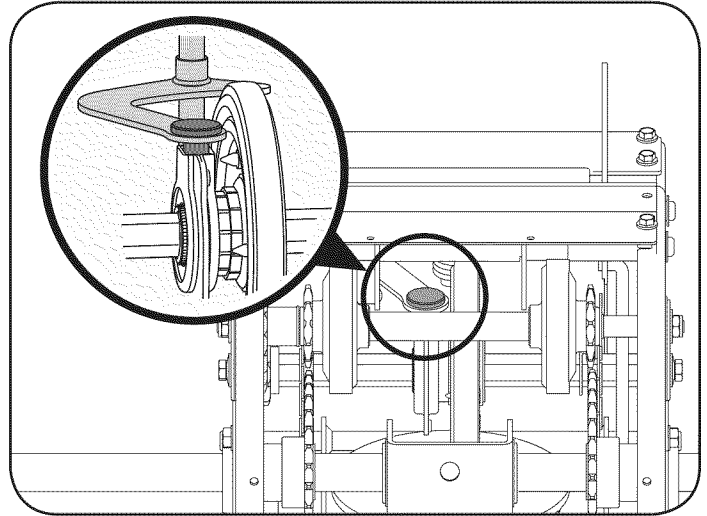

Figure 40
- Reposition the friction wheel assembly in the snow thrower frame. Insert the pin from the speed selector arm assembly into the friction wheel assembly and hold assembly in position. Refer to Figure 40.